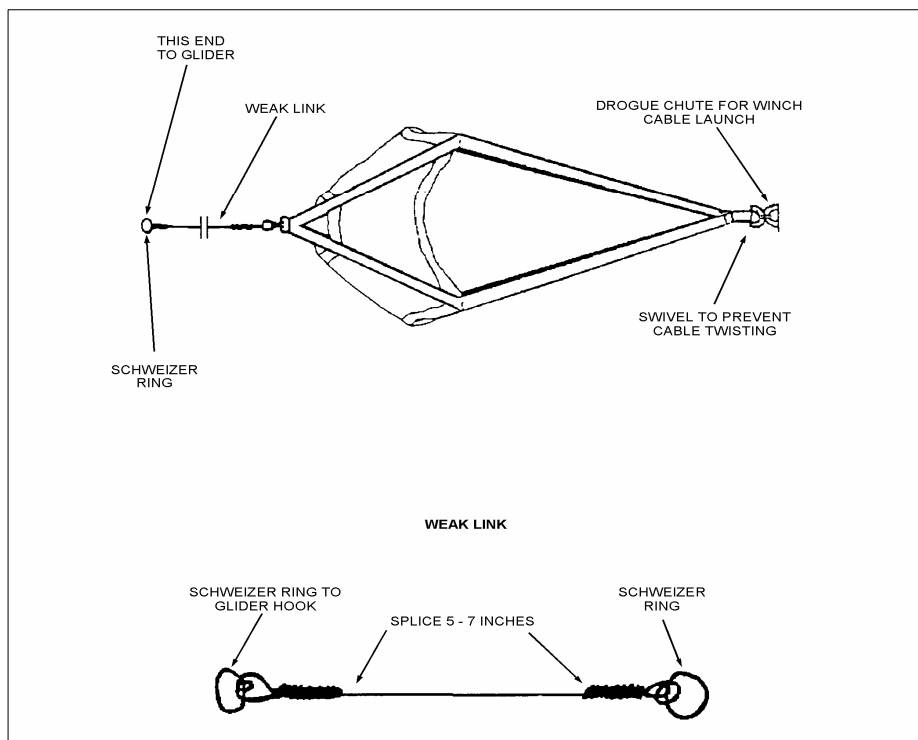

Figure 2-3-3 Drogue Chute Connection to Winch/Auto Cable
- 8. **Winch Launch Weak Link.** (Figure 2-3-3, detail B) The weak link standard is an 8 mm polypropylene rope with a certified breaking strength of not greater than twice the maximum certified operating weight of the glider. This weak link shall be constructed of 8 mm rope, part number 301023556, NSN 4020-21-911-8030. The assembled length of the weak link shall not be less than six feet (183 cm) to ensure the chute clears the nose of the glider. One Schweizer tow ring part number 1A-214-3, NSN 5365-21-896-7418 is to be spliced in at one end for glider hook up and a loop spliced in at the opposing end for the attachment to the chute D ring. The weak link must be installed between the glider hook up and the chute D ring to prevent over stressing the glider during the launch phase.
10. **Drogue Chute.** The drogue chute (Figure 2-3-3) prevents the launch cable from free falling when the glider releases and allows the winch operator to draw it in under control as it descends. A chute that opens up to approximately 5 feet in diameter should be suitable. Too large a chute would be hazardous on take-off should the winch stall or slow down allowing the chute to open and obscure the glider pilot's vision.